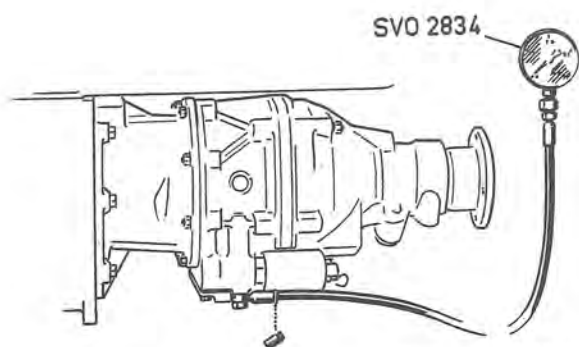

Fig. 4-42. Checking oil pressure
1. Remove the plug under the operation valve and connect the pressure gauge SVO 2834, see Fig. 4-42.